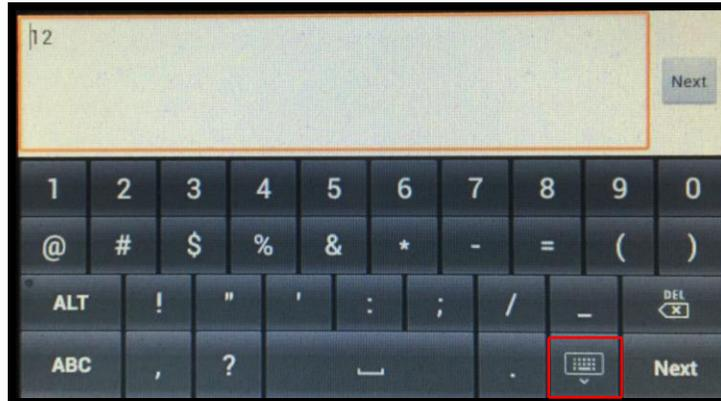
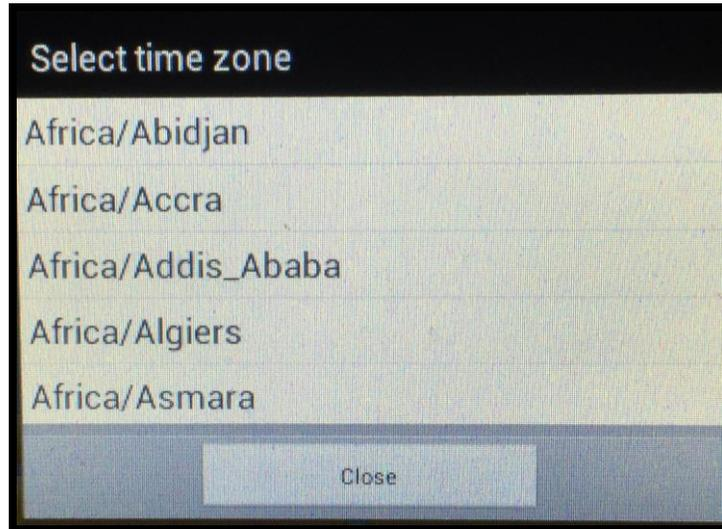

Figure 6
Figure 8
- An alternative method to close the keyboard and save the entered or changed values is to press the **Keyboard** button, located in the lower right hand corner of the keyboard (highlighted by the **red square** – Figure 6).
- b) If the MAJSx is connected to a local area network (LAN) or a “mini” LAN (router), the unit IP Address of the LAN or the “mini” LAN (router) will be displayed. Should the MAJSx not be connected to a LAN or a “mini” LAN router, No IPv4 Address will be displayed (as shown in Figure 6).
- c) To set the Time Zone, press the button to the right of the legend to open the selection chart (see Figure 6). Scroll through the list until the desired Time Zone is displayed. Press the field of the desired Time Zone to lock the Time Zone and press **CLOSE** (Figure 8) to return to the OPTIONS main window.
- e) **Check for Updates.** There are two buttons used to check for Software updates - See Figure 6
3. Prior to pressing the **START** button, confirm, and if necessary, change the “Pressure” that will be used during sieving, and the “Time Remaining” to meet the desired sieving parameters. By pressing the corresponding cell, this will open a keyboard on which the changes can be made. To save the changed values and close the keyboard, press the **NEXT** and/or **DONE** button. (See Figure 6)